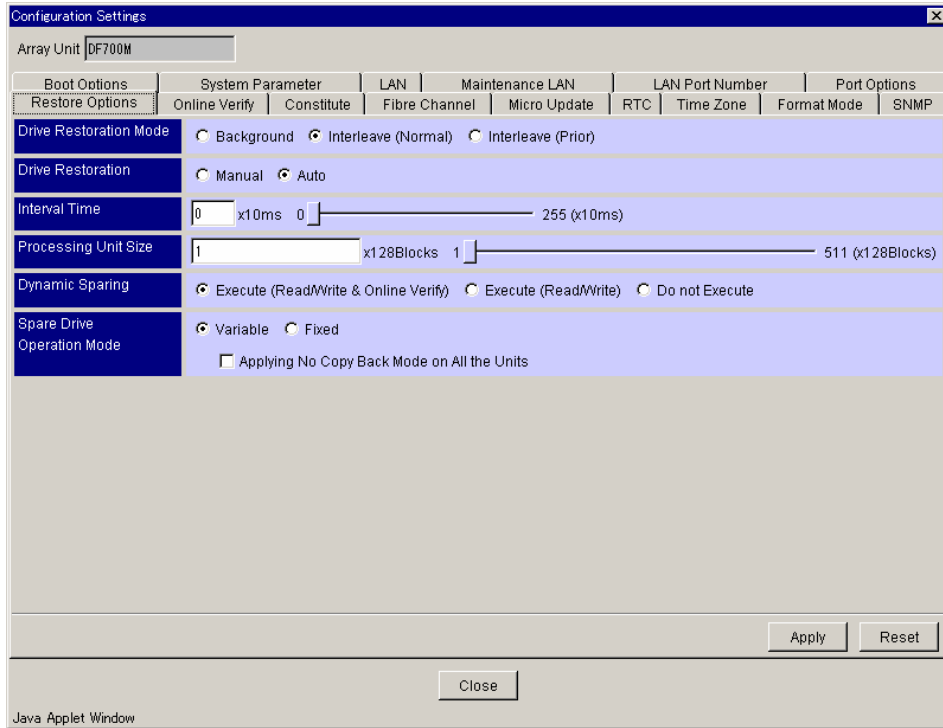

Figure 9.8 Configuration Settings - Restore Options
2. Click **Restore Options** tab. See Figure 9.8.